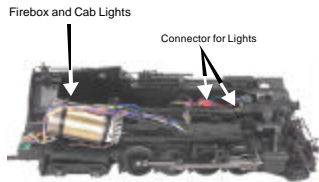

Figure 9: Boiler Connector Cables
2. Unplug the black wires from their connector (see figure 9).